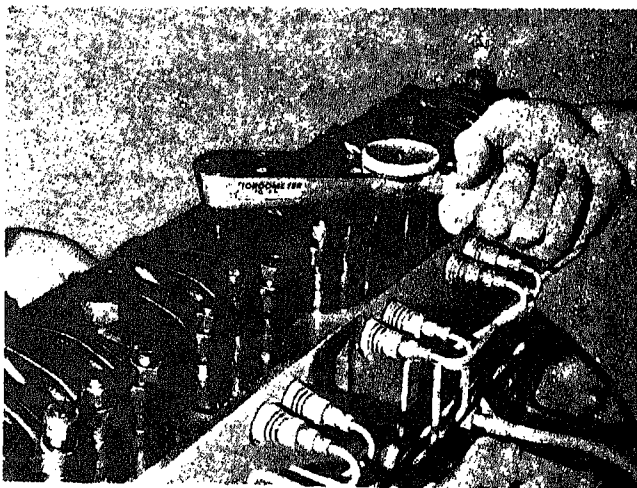

Fig. 14-1-83. Torquing injector lever adjusting screw
7. Tighten adjusting screw to 48 in. lbs. [.5520 kg m] ( $70^\circ\text{F.}$ ) [ $21.1^\circ\text{C.}$ ] setting. Use a torque wrench equipped with a screw driver adapter, graduated in inch-pound divisions, and having a maximum capacity of 150 in. lbs. [1.7250 kg m], Fig. 14-1-83.